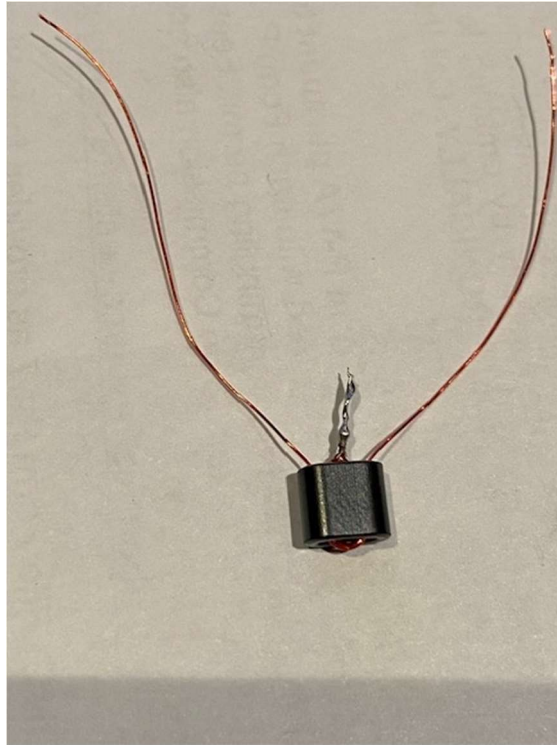

Figure 9. Completed T1 Secondary – 3T + 3T.
- vi. Wind two more turns using one leg, and two more turns using the other leg for a total of SIX turns (center tapped at 3 turns each) The secondary should now look like you see in Figure 9.